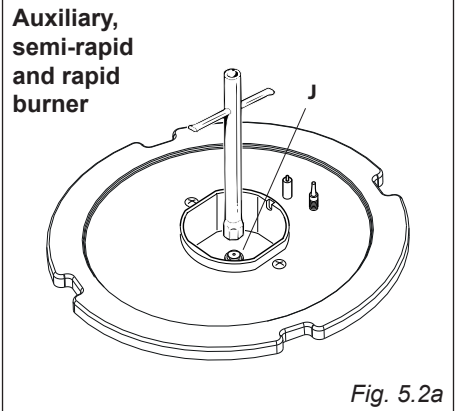

Fig. 5.2a
- Using a wrench, substitute the injectors "J" (figs. 5.2a, 5.2b, 5.2c, 5.2d) with those most suitable for the kind of gas for which it is to be used.